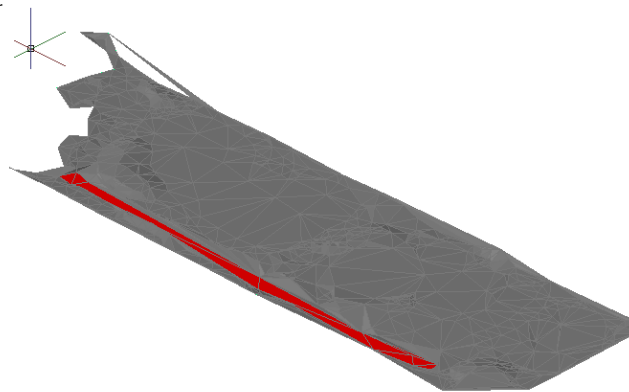

Figure 3-71 The realistic view of the surface after pasting the E Street surface over the EG surface
5. Choose the **View** tab and then select the **Realistic** visual style from the **Visual Style** drop-down list in the **Views** panel; the **E Street** surface is displayed, as shown in Figure 3-71.